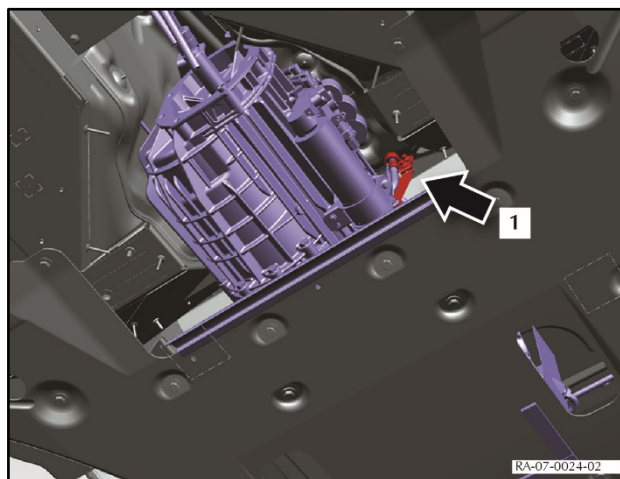

Figure 3
2. Examine the connector on the clutch supply line. If the bracket (1) shown in Figure 3 is installed, you do not need to do more work. Do Step 4.